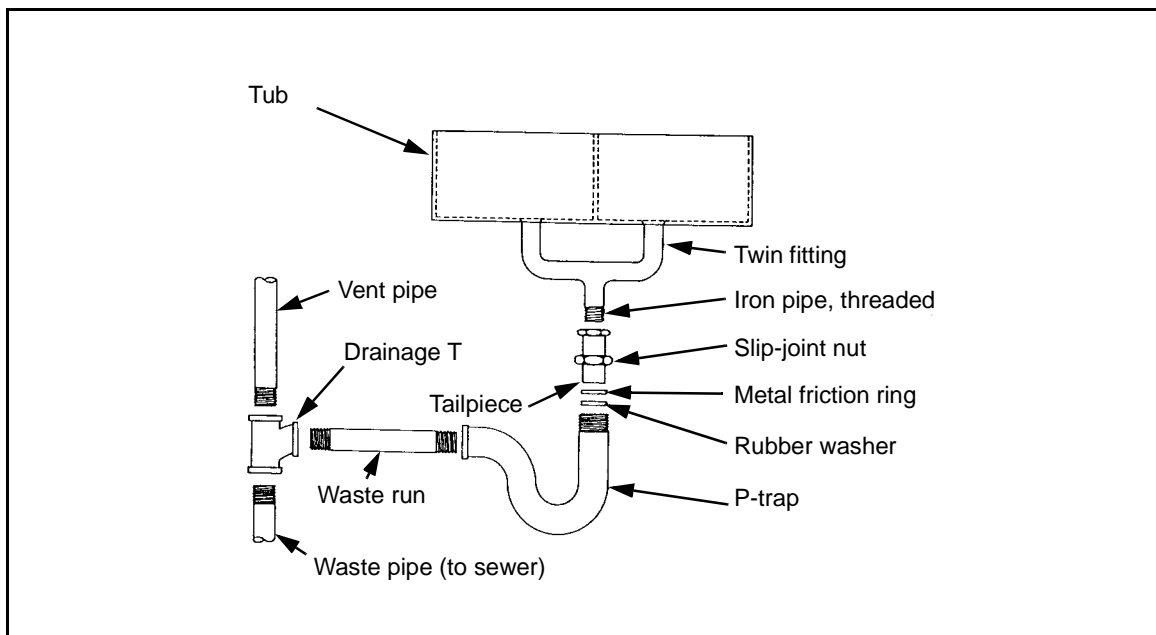

Figure 4-25. Laundry Tub Installation
4-59. Use the following steps and *Figure 4-25*, to install a tub (refer to *Chapter 7* for faucet installation):
Step 3. Connect the P-trap to the tub as shown in *Figure 4-25*.